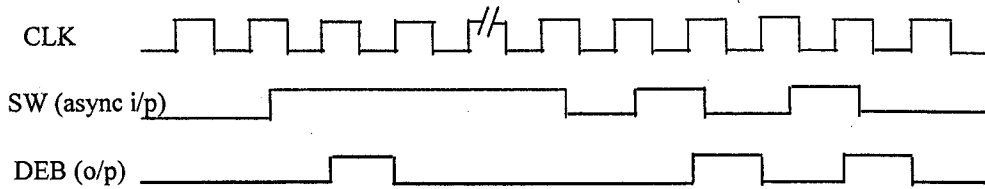

Figure 5(a)
7. A switch debounce system timing diagram is illustrated in figure 5(a). The system senses the state of the switch input [SW(h)] and, if high, asserts output signal DEB for exactly one clock cycle irrespective of how long SW(h) remains asserted. The system does not allow additional assertions of DEB until SW(h) is first deasserted.